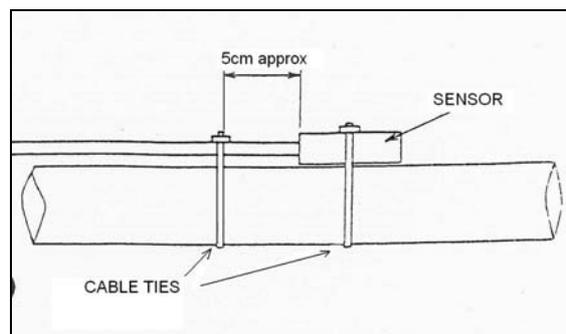

Fig 5
- Attach the sensor to the pipe with the cable tie (Fig 5).